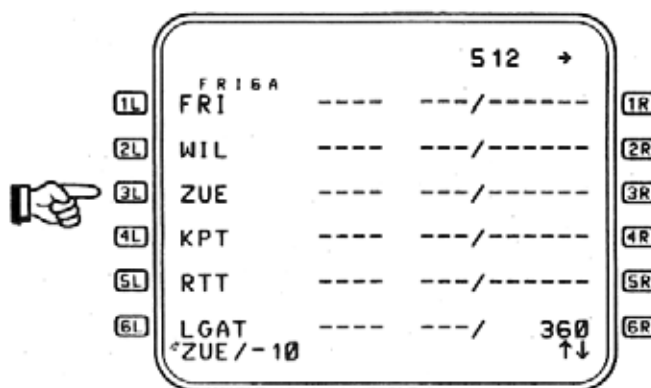

Figure 4-8
Place/Distance (PD) waypoint (also known as an along track offset waypoint) is a pilot defined point a given distance before or after an existing flight plan waypoint, and on the existing flight plan track. A new PD point is located before the waypoint if a minus (-) is used and after the point if a plus (+) is used. For example, by typing ZUE/-10 in the SP and pressing and left LSK abeam ZUE, the PD01 point 10 NM short of ZUE is generated and inserted into the F-PLN. See Figure 4-8 and 4-9. PD01 is the first (01) of 20 possible pilot definable waypoints.